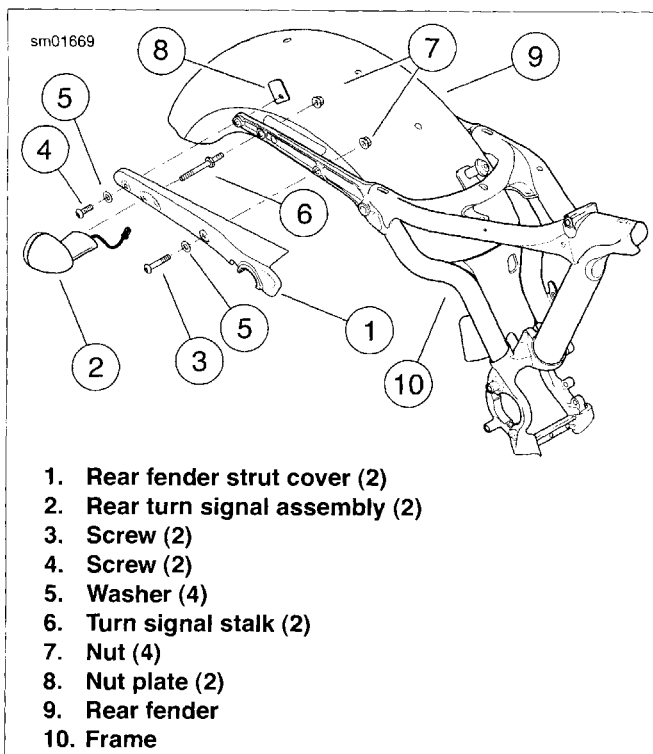
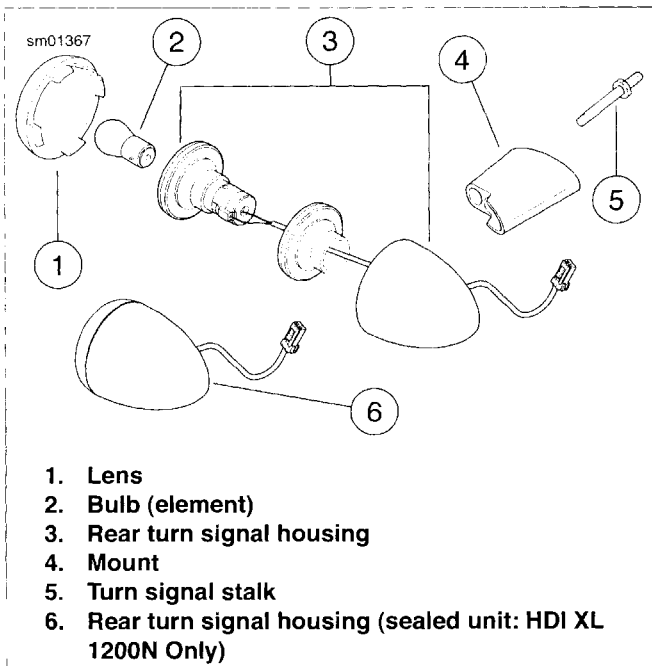

Figure 6-65. Rear Fender Mounting Components: Typical
Figure 6-66. Rear Turn Signal Components
1. See Figure 6-65. Remove screws (3, 4), washers (5), nuts (7) and nut plate (8). Remove rear fender strut covers (1) with attached turn signal assemblies (2) from rear fender struts. Carefully feed turn signal harnesses through holes in fender and fender struts as you remove the strut cover and turn signal assembly.
3. See Figure 6-66. Unscrew and remove turn signal stalk (5) and fender strut cover from each turn signal assembly. Mount (4) will separate from turn signal housing (3).
1. See Figure 6-66. Install each turn signal housing (3) and mount (4) to rear fender strut cover (item 1, Figure 6-65) with turn signal stalk (5). Tighten to 96-156 **in-lbs** (10.9-17.6 Nm).
4. See Figure 6-65. Thread nut (7) onto turn signal stalk (6) from inside fender. Finger-tighten nut only at this time.
5. Secure fender to each fender strut with screw (3), washer (5) and nut (7) in forward mounting hole. Install screw (4), washer and nut plate (8) in aft mounting hole. Finger-tighten screws only at this time.